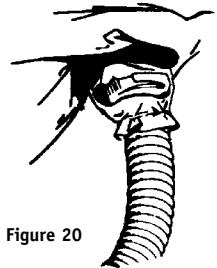

Figure 20
- Install nylon clamp over air entry sleeve and breathing tube. If desired, 2 or more clamps may be used (see Figure 20). The air entry sleeve seams should be on the sides of the breathing tube when properly installed and worn.